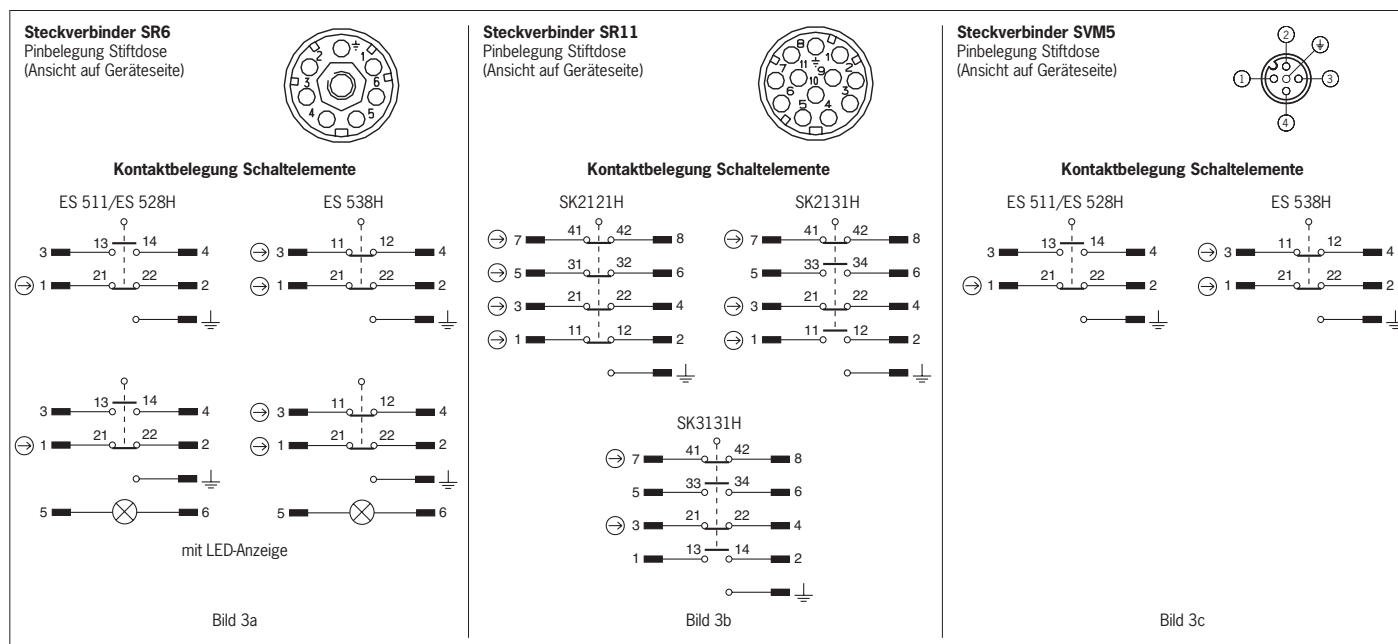

Bild 3: Schaltelemente und Steckerbelegung
At least one contact \Rightarrow must be used. This signals the position of the guard (for terminal assignment, see Fig. 3).
3. Connect and tighten the terminals with 0.5 Nm (1 Nm for ES511) (for terminal assignment, see Fig. 3).